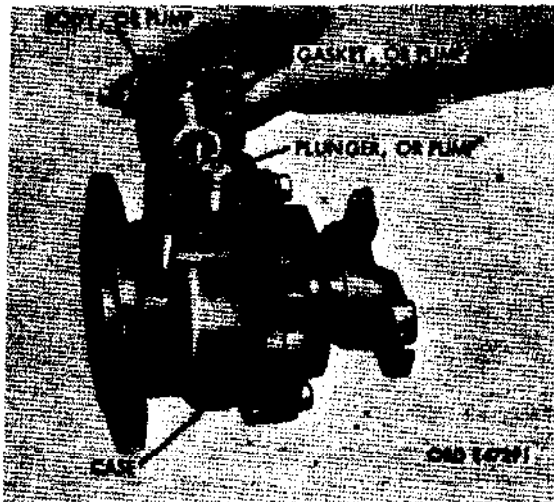

Figure 503. Removing power takeoff oil pump body
- (1) Remove four hex-head bolts (Q) and medium lockwashers (R) and lift the oil pump body (S) from the case (fig. 503).
- (2) Remove 90° elbow (P), releasing inlet check ball (N) and inlet ball spring (M).
- (3) Remove outlet ball plug (K), releasing outlet, ball spring (L) and outlet check ball (J).
- (4) Remove shaft nut (A) and flange washer (B) and remove companion flange.